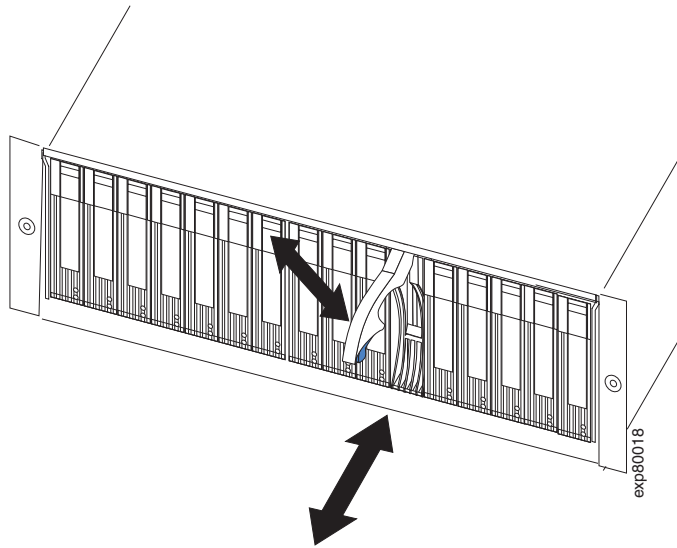

Figure 16. Removing a EV-DDM CRU
4. Pull the EV-DDM out of the bay, as shown in Figure 16 on page 36.